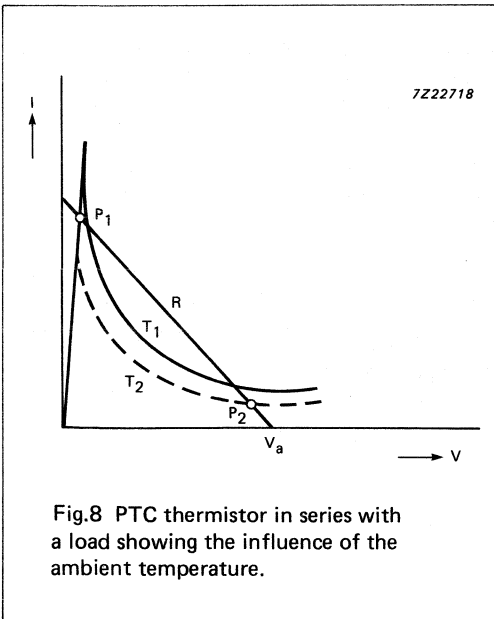

Fig.8 PTC thermistor in series with a load showing the influence of the ambient temperature.
2. the ambient temperature increases, see Fig.8
**Note:** When the temperature of the PTC thermistor is greater than  $T_s$  (i.e. the thermistor is in its tripped state), it will heat up causing the ambient temperature to increase (as shown in Fig.8). This must be taken into account when calculating the value of load resistance (i.e. the resistance of the PTC).